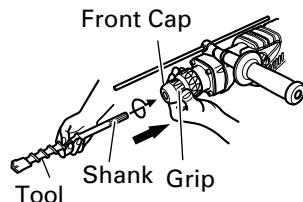

Fig. 2
(1) Clean, then smear the tool shank with the grease provided in the green tube.
(2) To attach the tool (SDS max shank), insert it into the hole until it contacts the innermost end of the hole as illustrated in Fig. 2.